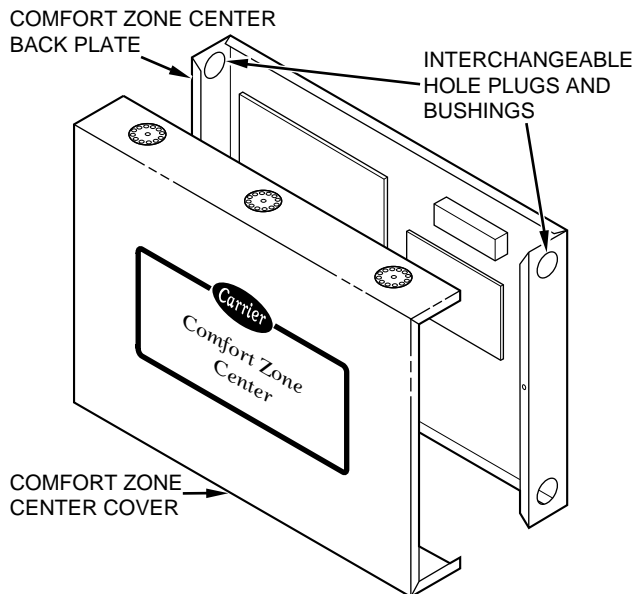

Fig. 5—Comfort Zone Center
1. Separate Comfort Zone Center cover. (See Fig. 5)